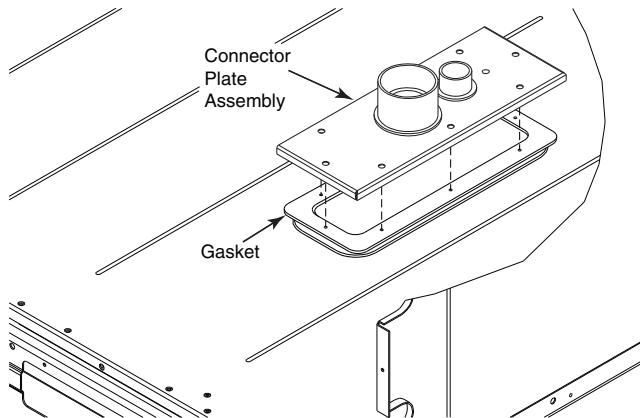

Fig. 41 — Completing Installation of Thru-the-Base Option
3. Place the gasket over the embossed area in the basepan, aligning the holes in the gasket to the holes in the basepan. See Fig. 41.